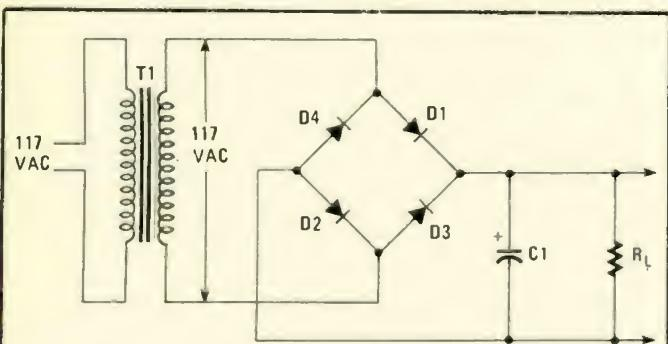

FIG. 5—CAPACITOR C1 provides ripple voltage filtering so that R_L always has a DC voltage across it. Refer to text for discussion on PIV rating of C1.
The pulsating DC produced by a bridge rectifier is not usable in most electronic circuits. To produce nearly pure DC from the rectifier output a filter must be used. The simplest form of filter is a single capacitor in parallel across the load resistor. See Fig. 5. The operation of filters will be discussed shortly, but included here, because the filter capacitor affects rectifier ratings which is our real topic. For now, let's be content with the fact that the filter capacitor (C1) is charged to the peak of the AC waveform. That means that the bridge rectifier's output voltage under no load is $1.414 \times V_{rms}$. It comes to 165.4-volts DC from a line isolation transformer T1 delivering 117-volts AC.
Some designers fail to recognize the true reverse-bias voltage in a filtered power supply. On one half-cycle, the diode will be forward-biased and current flows. On that half-cycle, the filter capacitor (C1 in Fig. 5) charges to peak positive voltage (i.e. $1.414 \times \text{rms}$). That voltage charge remains on C1. On the next half-cycle, the AC voltage reverse-biases the rectifier to the peak negative voltage (again, $1.414 \times \text{rms}$). That potential is added to the capacitor voltage to make the actual PIV twice normal peak voltage (i.e. $2 \times 1.414 \text{ rms} = 2.83 \text{ rms}$; or approximately 320.8 PIV). It would be wise to use diodes in the bridge circuit rated at a standard value of 400 PIV.
The simplest form of filter is a single capacitor connected in parallel with the rectifier output and the load. Such a filter is called a *brute-force* filter. An example is shown in Fig. 5.
Normally, we will have a ripple-factor percentage in mind as a design goal, and the load resistance is set by other requirements. We will want to rearrange Eqs. (6) and (7) to find the minimum value of capacitance (C1 in Fig. 5) required to do the job. Also, we will want our result in microfarads (μF), not Farads. To accomplish those goals we can rewrite Eqs. (6) and (7) into a final form:
Equations (8) and (9) are valid for power supplies using brute force filtering as diagrammed in Fig. 5 and operating from 60 Hz AC power lines. On 50-Hz power systems, increase the value of C1 by approximately 20 percent.
The filtering action has the effect of raising the average output voltage. The voltage produced by Fig. 5 will be as follows: